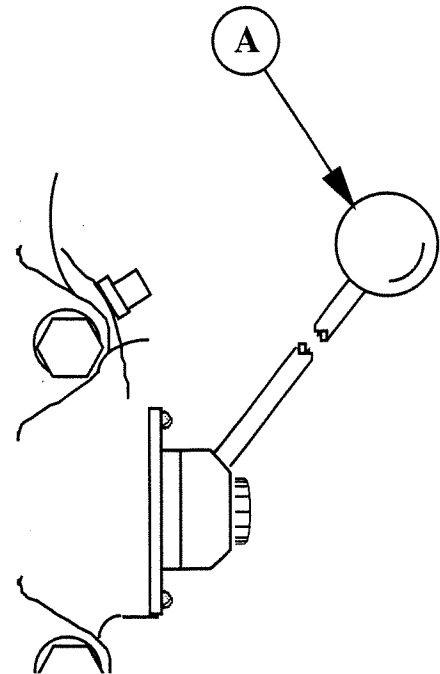

Figure 8-9. Quill Feed Handle
8.13 QUILL FEED HANDLE (Figure 8-9)